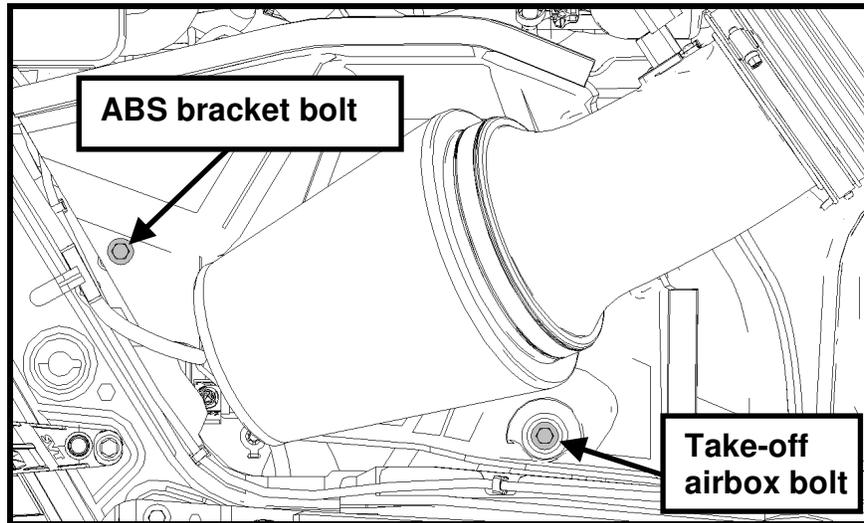

Fig. 11
**STEP 8:** Lower the complete airbox assembly into the vehicle using the two pegs as guides into the rubber grommets. Use the take-off airbox bolt and newly supplied ABS bracket bolt (N808920) to secure the airbox in the vehicle. Torque the M6 bolt to 10 Nm (88 lb in), and the M8 bolt to 25 Nm (221 lb in) (See Fig. 11).